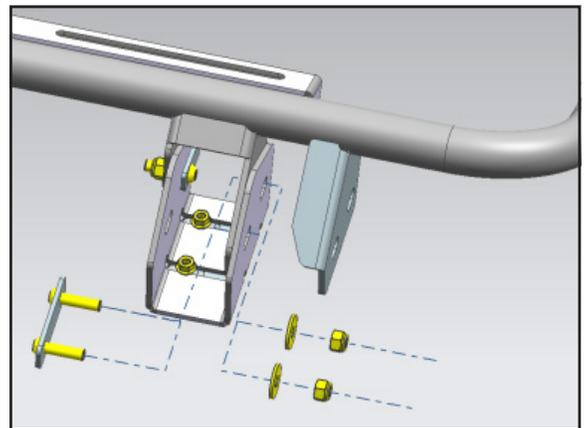

FIGURE 22
- a. Attach the Wind Fairing to the outside of the Mounting Tabs on the Crossbar with the included (4) 8mm Nylon Lock Nuts, (4) 8mm Lock Washers, (4) 8mm x 24mm Large Flat Washers and (2) 8mm Double Bolt Plates, **(Figure 22)**.